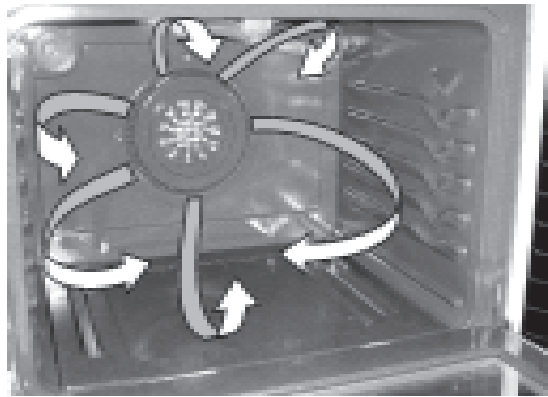

Fig. 1
**Speed Bake™ Cooking System** uses a fan to circulate the oven's heat uniformly and continuously around the oven. This improved heat distribution allows for fast, even cooking and browning results. It also gives better baking results when using two racks at the same time (See Fig. 1).